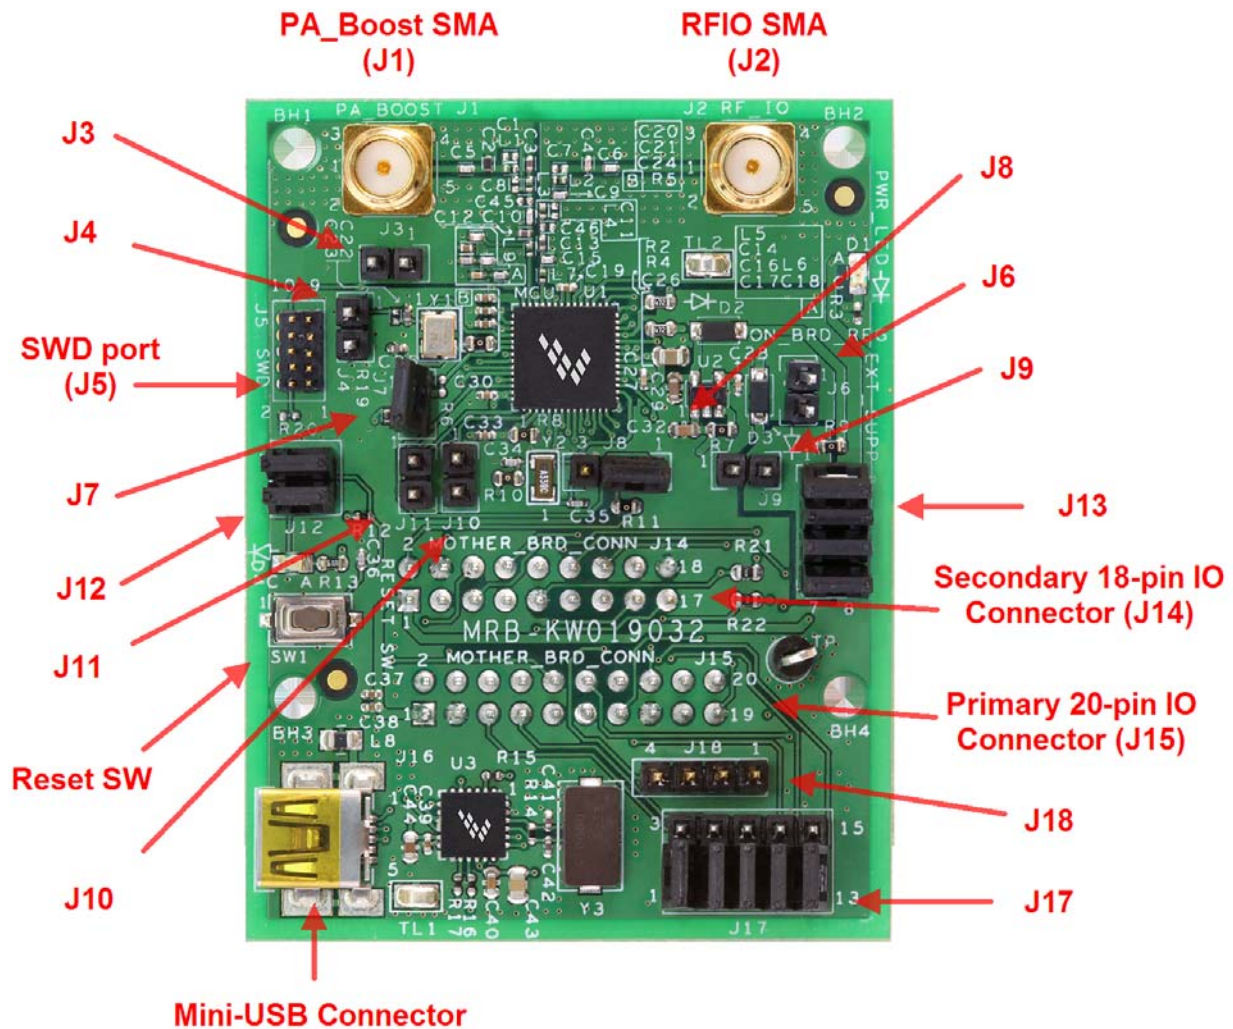

Figure 3-1. KW01-MRB
Figure 3-1 shows the KW01-MRB connector and header locations.
- Figure 3-1 for location of connectors and features
The reset circuit and SWD port connector are shown in Figure 3-7. See Figure 3-1 for switch and header locations.